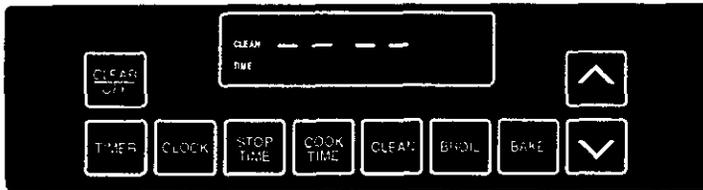

Fig. 1
1. Close oven door. Push **CLEAN**. The time display will show (---). See Fig. 1. You may need to press slightly on the door.